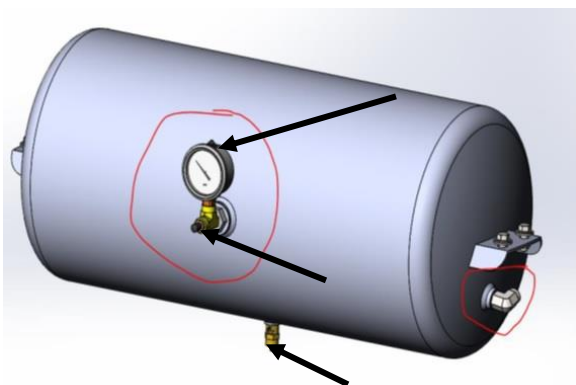

Figure 210
2. The compressed air is added to the tank as needed at the Schrader valve. Figure 210 There is a 150 PSI relief valve at the bottom of the tank. The gauge is only on Model Year 2021 and above headers.